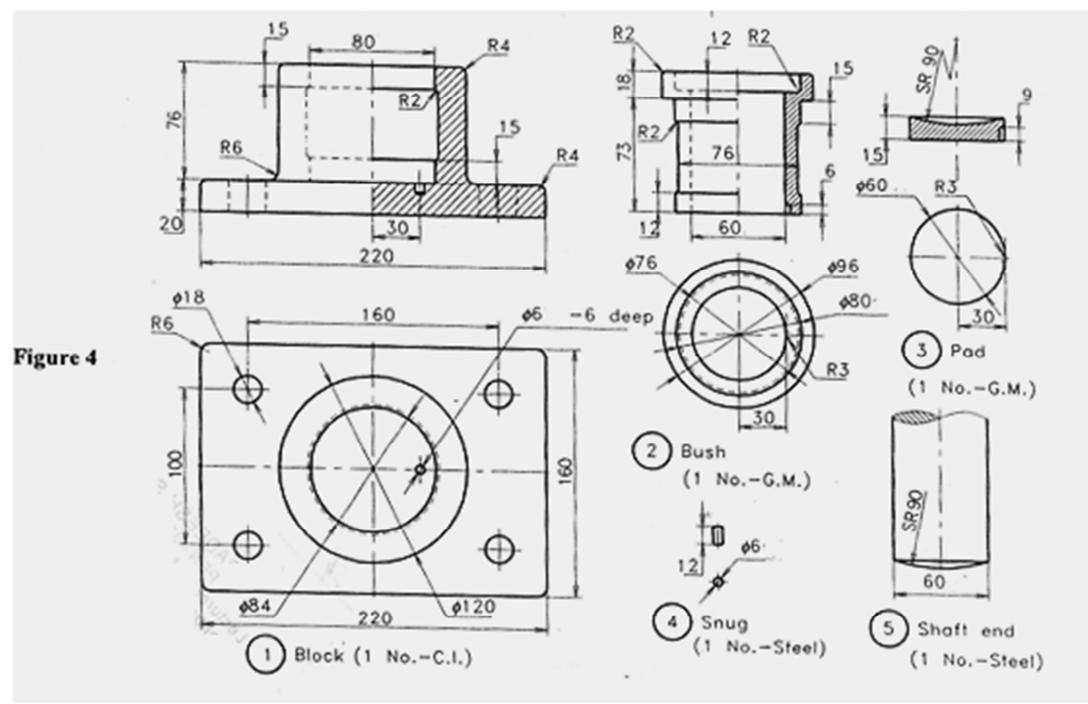

Figure 4
- VI. Detailed view of a footstep bearing is shown in Fig.4. Assemble the parts and draw the right half sectional elevation. (40)